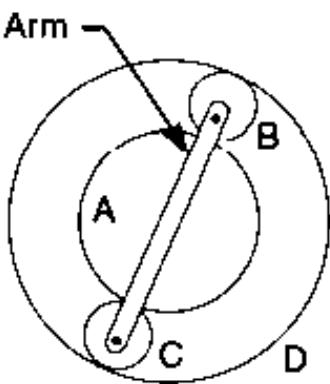

Fig.3
- V b.** Explain self-locking and self-energizing brakes with the help of equations. (06)
- VI b.** An epi-cyclic train of gears is arranged as shown in Fig. 3. The number of teeth on the gears A and D are 40 and 90 respectively. Determine number of revolutions of the arm: If, A makes one revolution clockwise and D makes half a revolution anticlockwise. 2. If, A makes one revolution clockwise and D is stationary.